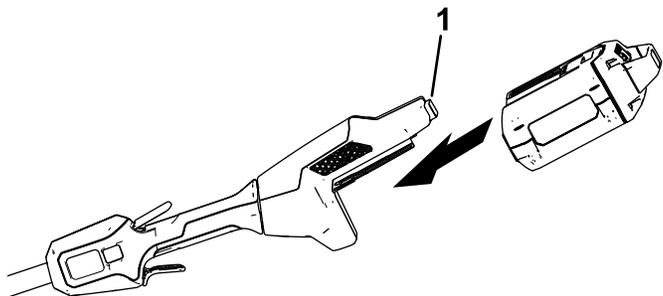

Figure 9
2. Aligned the notch of the battery on the tongue of the handle body (Figure 9).
3. Push the battery into the handle until it clicks into the lock (Figure 9).